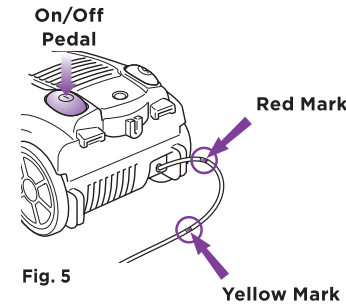

Fig. 5
- 3 Pull the power cord out from the rear of the vacuum, extend it to the desired length and plug it in. **DO NOT** extend past the yellow mark as this indicates the end of the cord is near and **DO NOT** pull beyond the red mark. (Fig. 5)
- 4 First turn the vacuum 'On' by stepping on the On/Off pedal. (Fig. 5)